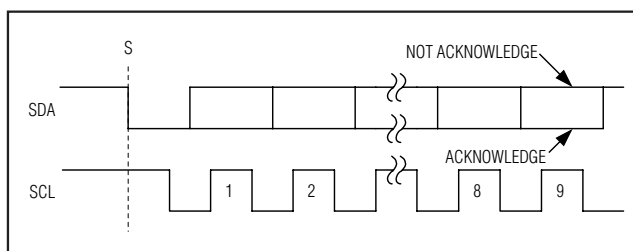

Figure 6. Acknowledge Bits
Data transfers are acknowledged with an acknowledge bit (A) or a not-acknowledge bit (\bar{A}). Both the master and the MAX11606–MAX11611 (slave) generate acknowledge bits. To generate an acknowledge, the receiving device must pull SDA low before the rising edge of the acknowledge-related clock pulse (ninth pulse) and keep it low during the high period of the clock pulse (Figure 6). To generate a not-acknowledge, the receiver allows SDA to be pulled high before the rising edge of the acknowledge-related clock pulse and leaves SDA high during the high period of the clock pulse. Monitoring the acknowledge bits allows for detection of unsuccessful data transfers. An unsuccessful data transfer happens if a receiving device is busy or if a system fault has occurred. In the event of an unsuccessful data transfer, the bus master should reattempt communication at a later time.